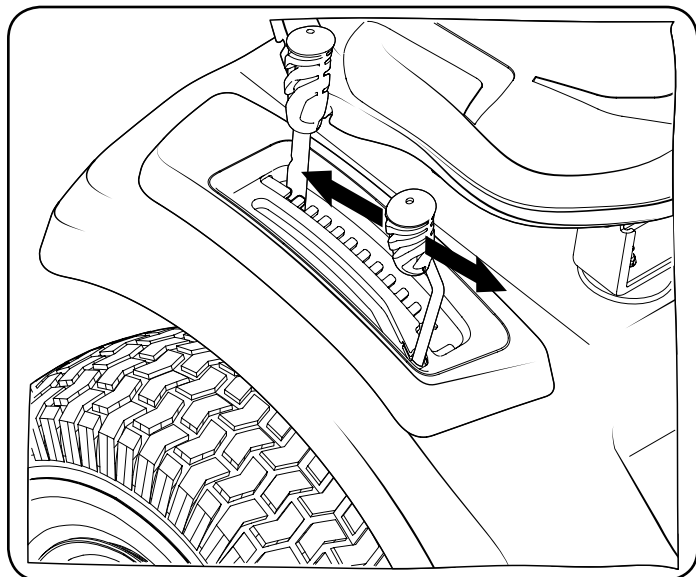

Figure 14
2. Push the PTO handle forward into the engaged (ON) position. See "Figure 14".